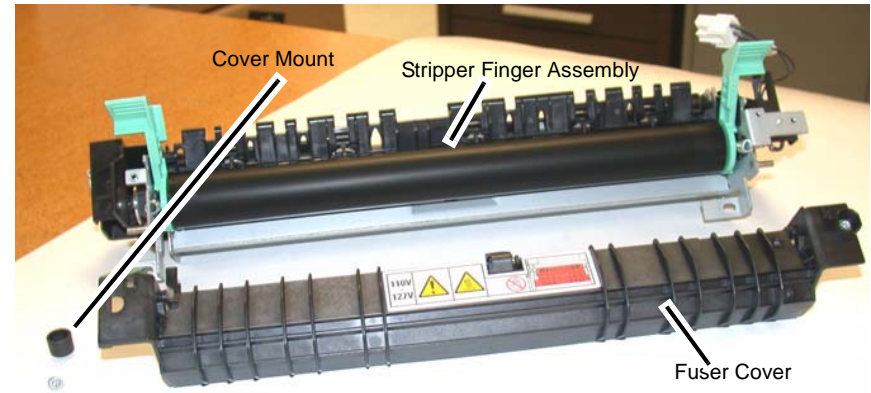
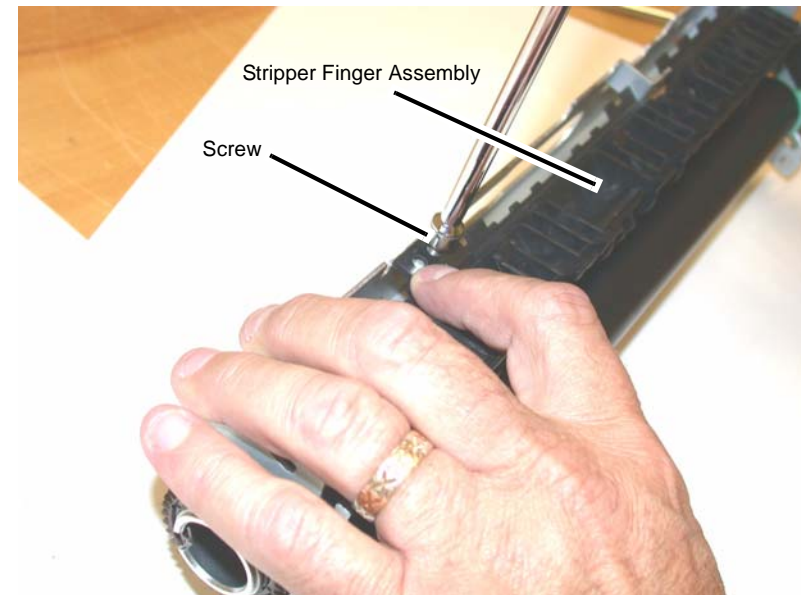

Figure 2 Fuser Cover Removed
Figure 3 Removing the Stripper Finger Assembly
NOTE: Do not lose the Cover Mount (Figure 2).
3. Remove the Stripper Finger Assembly (Figure 2 and Figure 3).